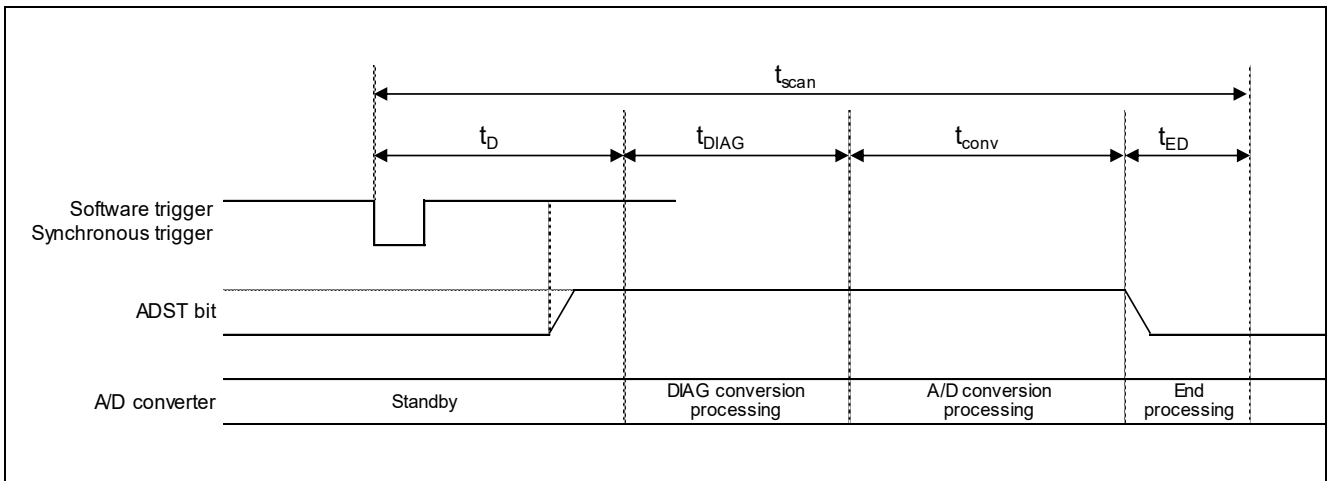
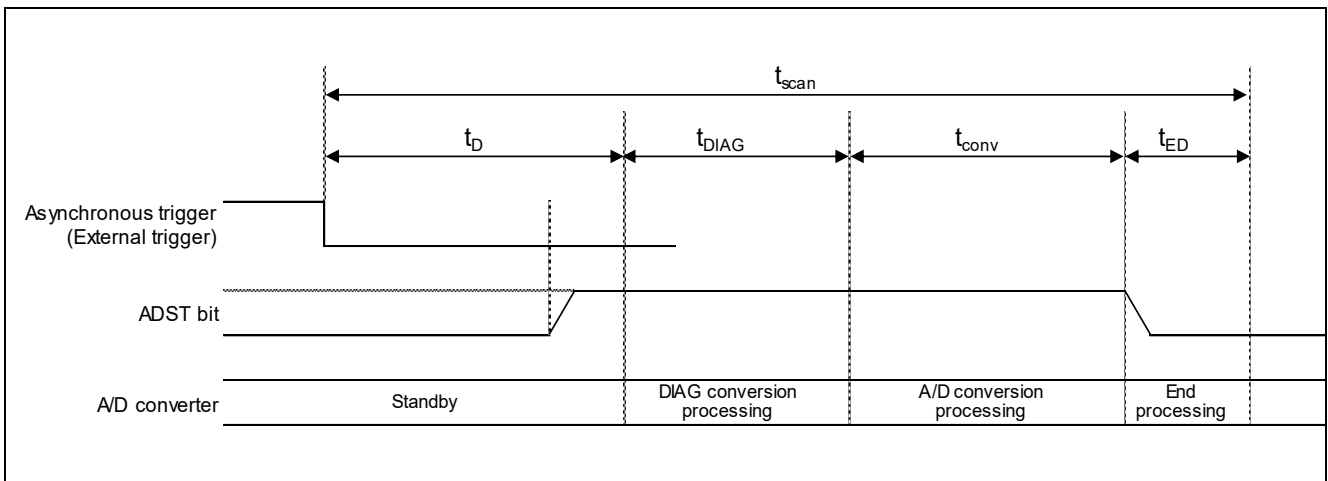

Figure 3.4 RX261 Group Scan Conversion Timing (Software Activation and Synchronous Trigger Activation)
Figure 3.5 RX261 Group Scan Conversion Timing (Asynchronous Trigger Activation)
Figure 3.4 shows scan conversion timing (software activation and synchronous trigger activation) on the RX261 Group.
Figure 3.5 shows scan conversion timing (asynchronous trigger activation) on the RX261 Group.
- Note 1. Refer to Figure 3.4 and Figure 3.5 for the timing of t_D, t_{DIAG}, t_{CONV}, and t_{ED}.